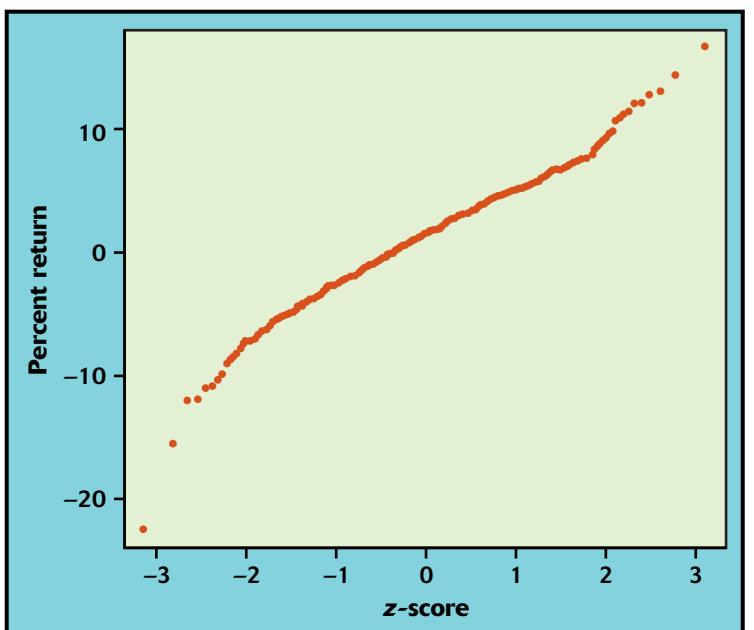

FIGURE 1.31 Normal quantile plot of the percent returns on U.S. common stocks in 601 consecutive months, for Exercise 1.71.
- 1.71 Figure 1.31 is a Normal quantile plot of the monthly percent returns for U.S. common stocks from June 1950 to June 2000. Because there are 601 observations, the individual points in the middle of the plot run together. In what way do monthly returns on stocks deviate from a Normal distribution?